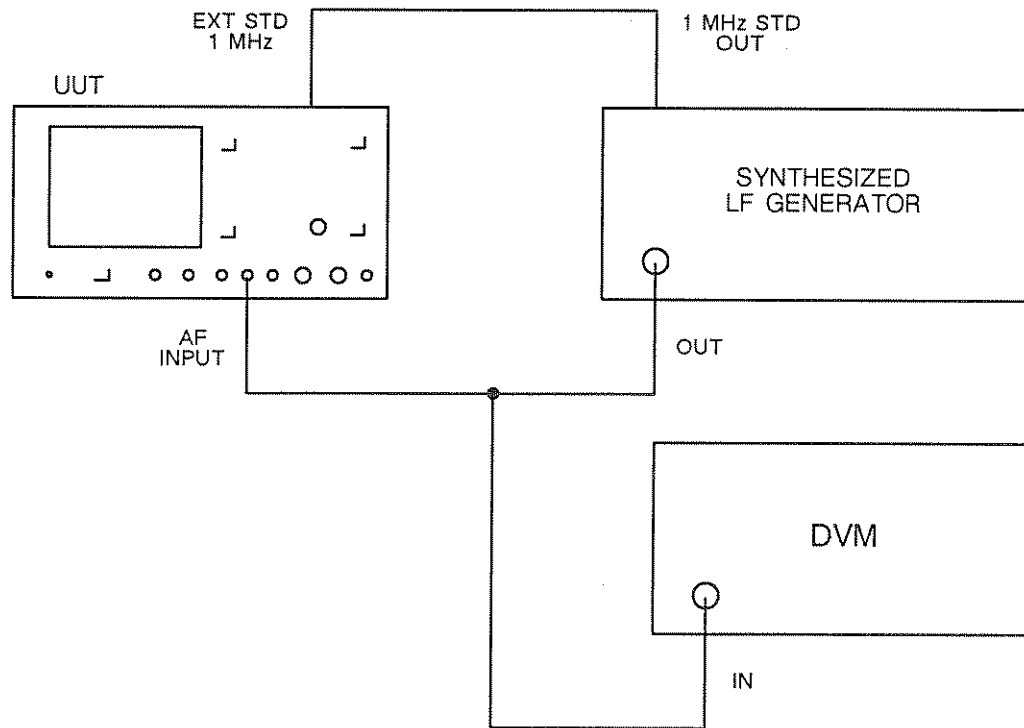

Fig. 5-11 Test equipment connections for AF frequency meter accuracy and sensitivity
- (1) Connect the equipment as shown in Fig. 5-11.
- (2) Set the UUT to audio test, distortion off, 50 kHz LOW PASS filter, AC coupled.
- (3) Set the synthesized LF generator to give a 20 kHz sinewave at 50 mV RMS.
- (4) Set the DVM to read AC and RMS.
- (5) Adjust the LF synthesizer output level until the DVM indicates 50 mV.
- (6) Check that the frequency meter on the UUT indicates the frequency set on the synthesizer  $\pm 1$  digit  $\pm 0.1$  Hz/0.02%.
- (7) Repeat the above for random LF synthesizer frequencies between 20 Hz and 20 kHz.